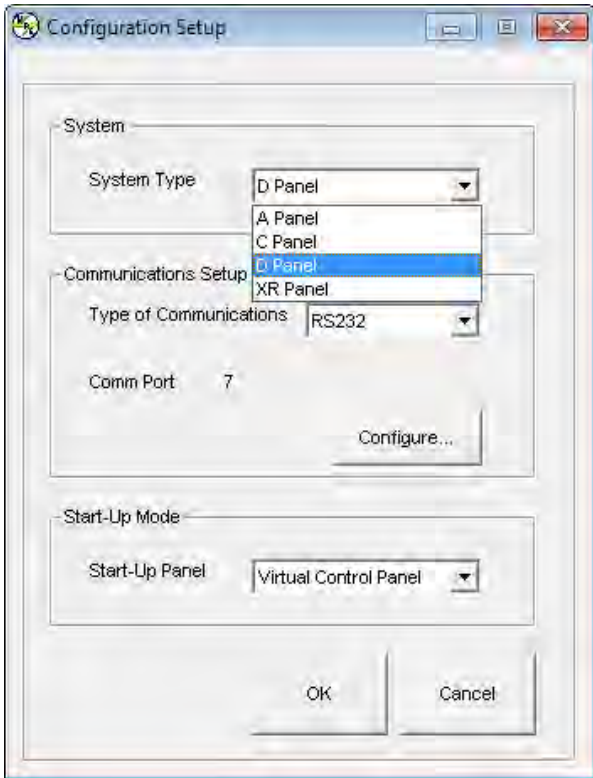

Figure 4.1. RIS Panel Configuration Setup
2. Communications interface: RS232, RS485, IEEE-488 GPIB, LXI TCP/IP Ethernet, simulated, or others depending on future developments. *Figure 4.1, "RIS Panel Configuration Setup"* displays the Applications Setup Window. Address requirements are: